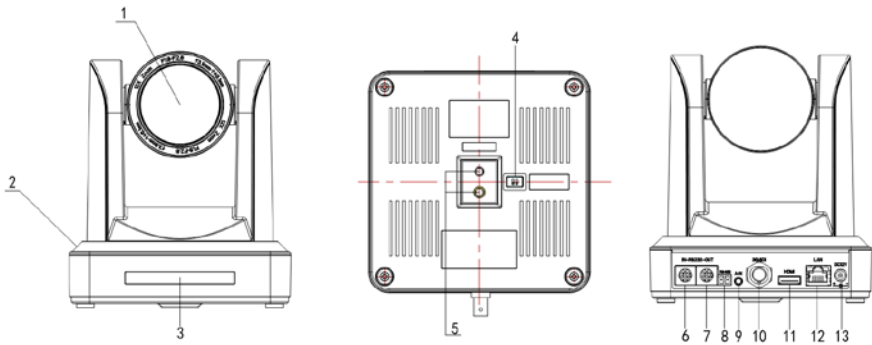

Figure 1.1 Interface of ST (standard) Series
A. Network Cable Connection Port: No.12 in Figure1.1;
A. HDMI Video Cable Connection: Refer to No.11 in Figure1.1.
A. 3G-SDI video cable connection: Refer to No.10 in Figure1.1